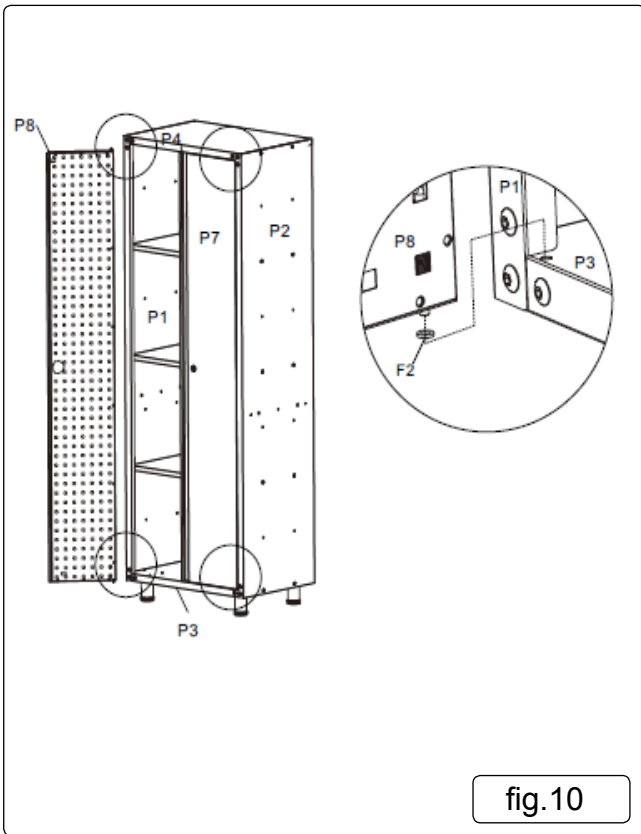

fig.10
5.9. Position the doors/hinges as per fig.10.